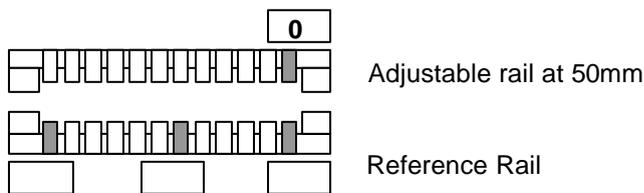

Figure 14
- Once the adjustable rail flatness is within tolerance. Use the 0 position (Fig.14) as the reference to check the height between the adjustable and reference rails at the hi-lighted positions.